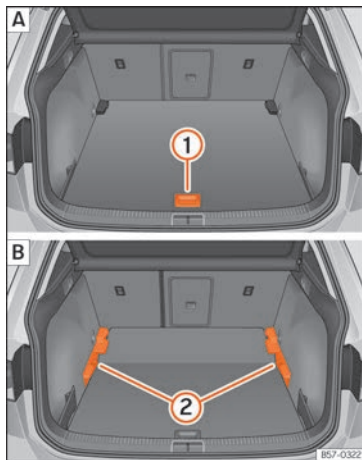

Fig. 169 Variable luggage compartment floor:
- To move from the low position to the high position, lift the floor using the handle >>> Fig. 169 **1**, and pull it back until the front of the floor has fully passed the supports **2**.
- To move from the high position to the low position, lift the floor using the handle >>> Fig. 169 **1**, and pull it back until the front of the floor has fully passed the supports **2**.
- Lift the variable floor in the high position using handle >>> Fig. 169 ①, pull it up and push it towards the backrest of the rear seats until it folds along the hinge line and the movable part of the floor is resting on itself.
- To move from the high position to the low position, lift the floor using the handle >>> Fig. 169 ① and pull it back a little.
- Push the variable floor towards the folded rear seats with the handle ① using some downward pressure so that the moving part of the floor is flush with the backs of the rear seats.